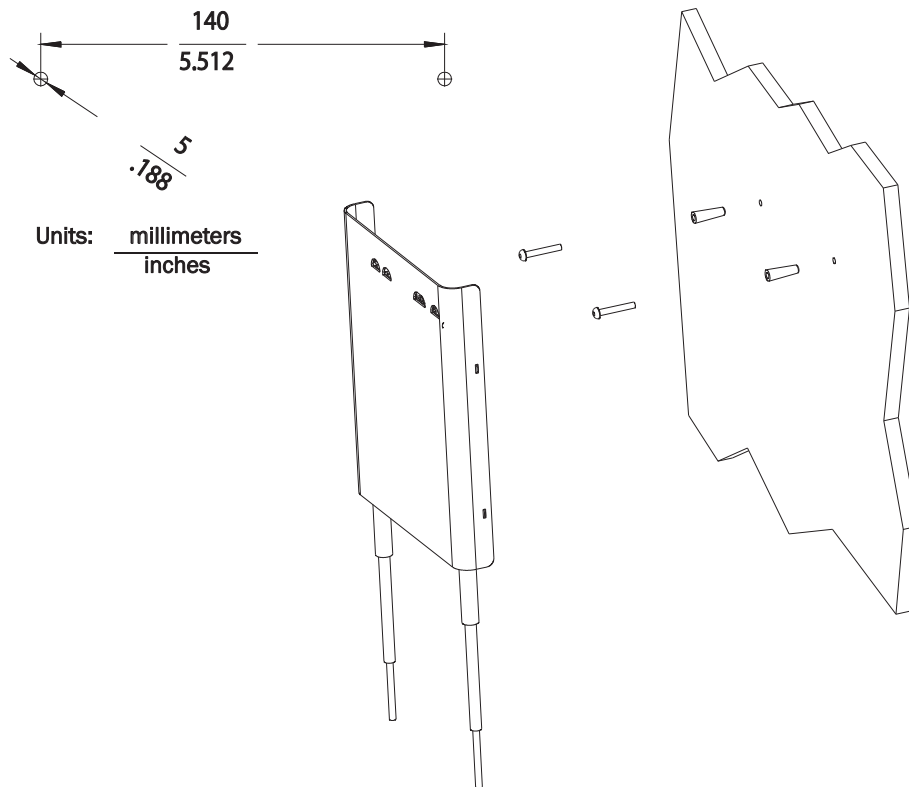

Figure 2-3: Mounting the ITS 1.4 GHz Core AP to a Wall (Fixed Mount)
1. Using a 3/16-inch drill bit, drill a pilot hole .188 inches (5 mm) in diameter at the locations shown in Figure 2-3.
3. Screw a supplied #6 x 1 1/4 inch self-tapping screw into each screw anchor (or pilot hole) as shown in Figure 2-3.
4. While holding the AP chassis with its antennas pointing down as shown in Figure 2-3, fit the holes in the back of the AP chassis over the screw heads that protrude from the wall. Slide the AP chassis down so that the screw heads are securely in the grooves in the back of the AP chassis.